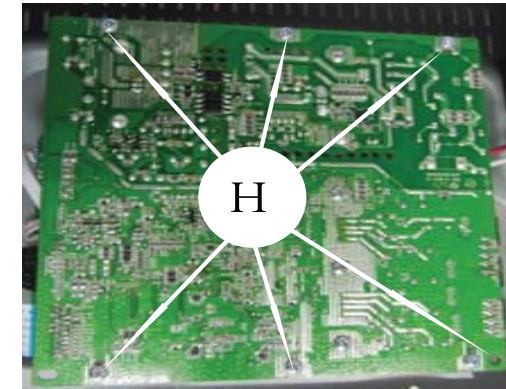

Figure 10
- 2) Loosen 6 screws "H" as shown in figure10 to detach Remote Board